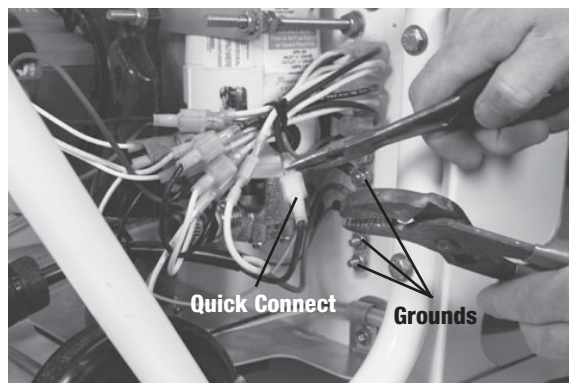

Figure 7
5. Unscrew pump's ground wire and separate pump's black and white wires at their quick-connects. You may need to use a pair of pliers or needle-nose on either side of quick-connect to separate. (Fig. 7).